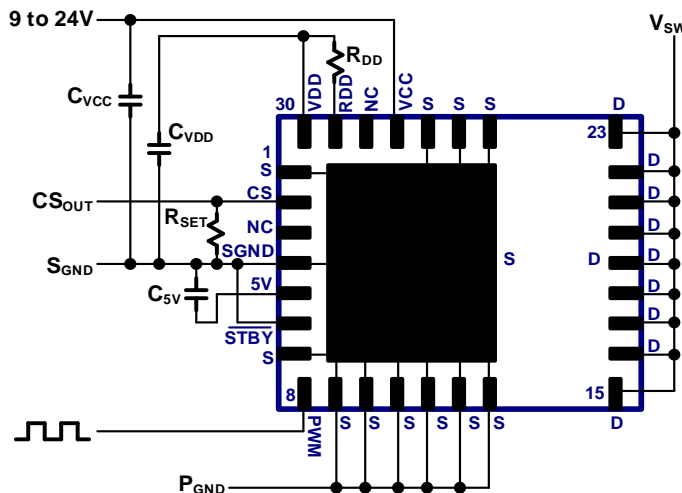

Fig. 20. IC connection diagram
The typical connection diagram for this GaN Power IC is shown in Fig. 20. The IC pins include drain of the GaN power FET (D), source of the GaN power FET (S), IC supply (V_{CC}), gate drive supply (V_{DD}), gate drive turn-on control SET input (R_{DD}), PWM input (PWM), separate signal GND (S_{GND}), current sensing output (CS), auto-standby mode input ($STBY$), and 5V supply (5V). The Source pad and Source pins (S) should all be connected to the system P_{GND} . S_{GND} pin 4 must be connected directly to Source PAD underneath IC. The Source pins (S) should each be connected externally to the Source pad directly underneath the IC. The Drain Pins (D) should all be shorted together by copper in the layout (see Section 9). The external components around the IC include V_{CC} filter capacitor (C_{VCC}) connected between V_{CC} pin and S_{GND} pin, V_{DD} filter capacitor (C_{VDD}) connected between V_{DD} pin and S_{GND} pin, turn-on dV/dt set resistor (R_{DD}) connected in between V_{DD} pin and R_{DD} pin, a current sense amplitude set resistor (R_{SET}) connected between CS pin and S_{GND} , and auto-standby mode pin ($STBY$) connected to S_{GND} . An external capacitor (C_{5V} , 0.01uF max) is required between pin 5V and S_{GND} . This 5V pin is for internal purposes only and must not be used for biasing external circuitry.